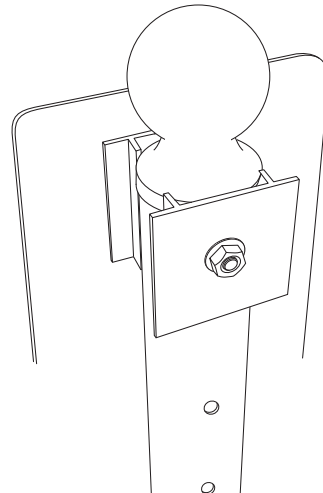

Figure 4
- Add the second stabilizer plate to the end of a bolt and loosely secure with a flange nut. (See Figure 4)